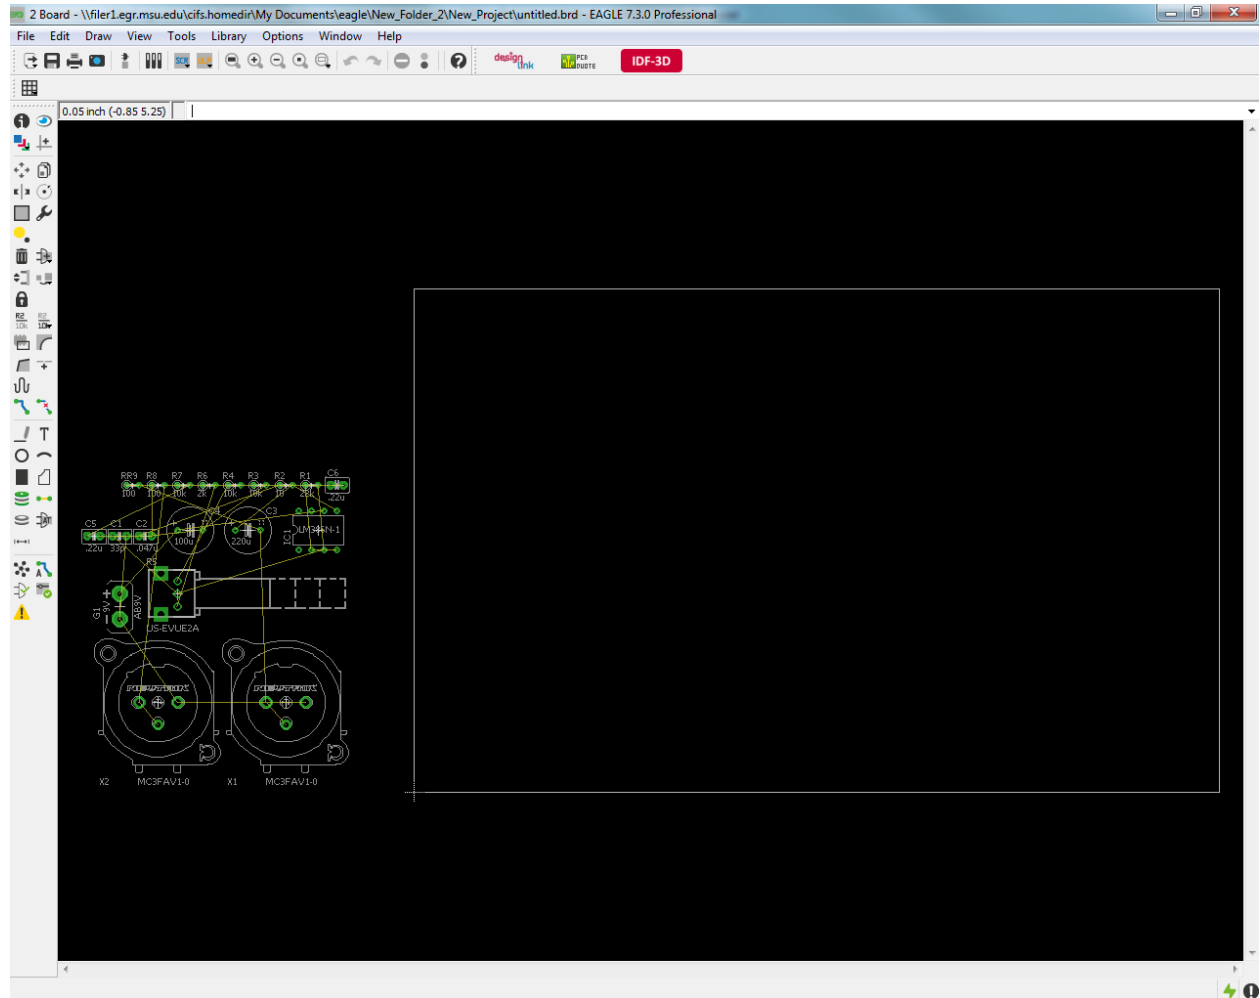

Figure 2
4. A screen should pop up that looks similar to the screen in **figure 2**
5. This is the screen that contains the board file. As shown in **figure 2**, the white outlines of the components are called footprints. These footprints show the outline of the components when they are mounted on the board. This allows the user to visualize the board layout and know where to place each component once the printed circuit board is fabricated. The green circles show the pads that the component will be connected to. Pads are where the pins of the component are soldered and the place where the traces connect to each component. The yellow lines show which pins need to be connected and provide a guide for routing the traces. These yellow lines do not physically connect pins but helps the user know where to route each trace. The large white box on the screen determines the size of the printed circuit board.